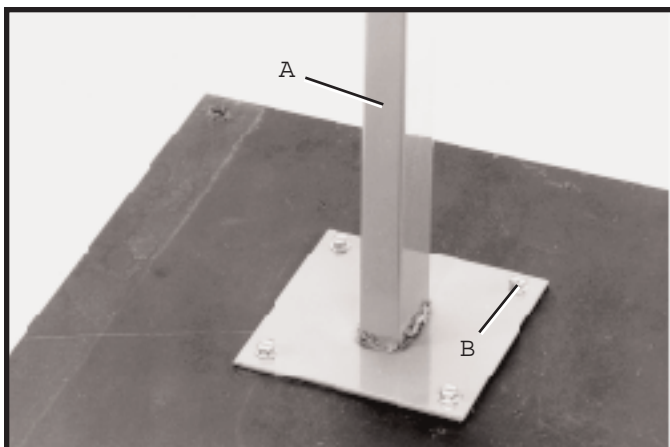

Fig. 6
4. Assemble leg (A) Fig. 6, to the bottom of the table using four #14 x 3/4 inch-long screws (B) as shown. Assemble the remaining leg to the table in the same manner.